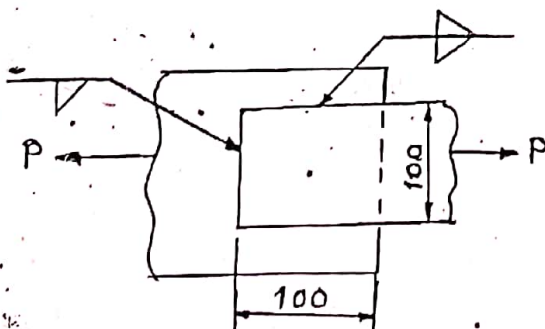

Fig. Q.2 (C)
(c) Two overlapping plates are welded as shown in fig. Q.2(c) (dimensions in mm). The maximum value of P is 120 kN and the allowable shear stress of the weld is 100 MPa. Determine the minimum size of the weld to be applied. All seams are of the same size. (6)